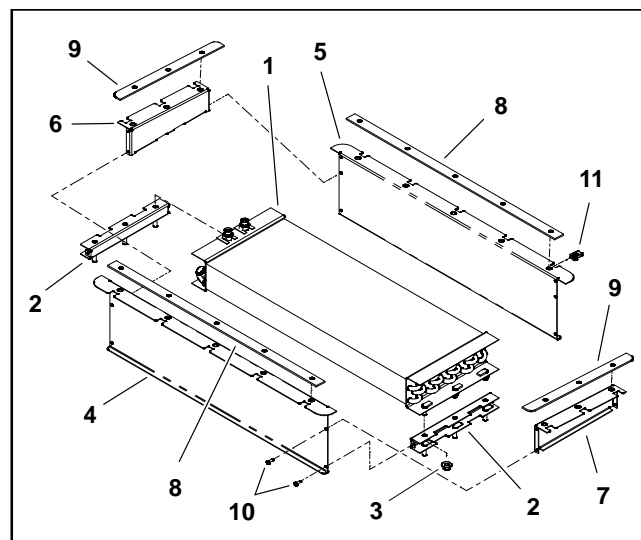

Figure 9
10. If necessary, disassemble condenser assembly using Figure 9 as a guide. Inspect seals on top of condenser assembly walls (items 8 and 9 in Fig. 9) for wear or damage and replace if needed.
- B. Assemble all condenser assembly components using Figure 9 as a guide. Make sure that strip and edge seals are in good condition after assembly.
3. Secure A/C condenser assembly to cab frame with four (4) flange nuts.